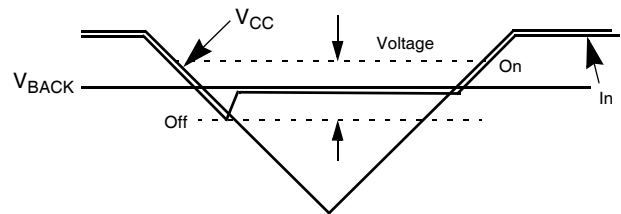

FIGURE 3. POWER CONTROL
**WATCHDOG TIMER/LOW VOLTAGE RESET OPERATING CHARACTERISTICS****Watchdog/Low Voltage Reset Parameters (See Figures 3 and 4)**